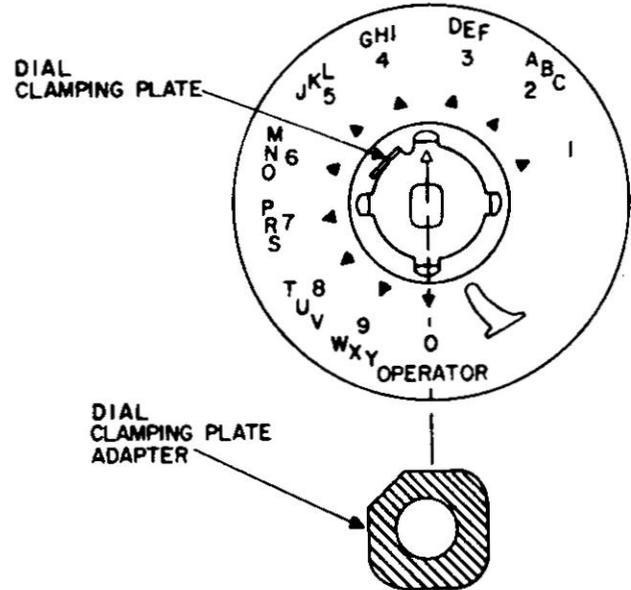

Figure 6. Dial Clamping Plate Adapter Location on A.E. Co. Dial Assembly.
2.18 The Dial Plate Adapter, (PP-4108), shown in Figure 6 is used to prevent the D-780896-A acrylic or polycarbonate fingerwheel from unintentionally snapping off the dial clamping plate due to sprung or ill fitting clamps. The adapter reinforces the clamping plate and prevents the removal of the fingerwheel without the use of the fingerplate removal tool H-886316-1 or equivalent.
2.19 To install the Dial Clamping Plate Adapter on the A.E. Co. dials equipped with acrylic or a polycarbonate fingerwheel, remove the fingerwheel from the dial assembly per the instructions given in paragraph 2.13. Place the adapter within the dial clamping plate as shown on Figure 6. Replace the fingerwheel per the instructions given in paragraph 2.17.